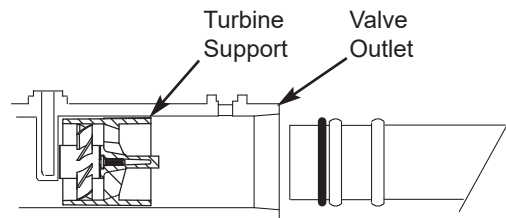

FIG. 6
- Make sure the turbine support is in place in the valve outlet, as shown in Figure 6.